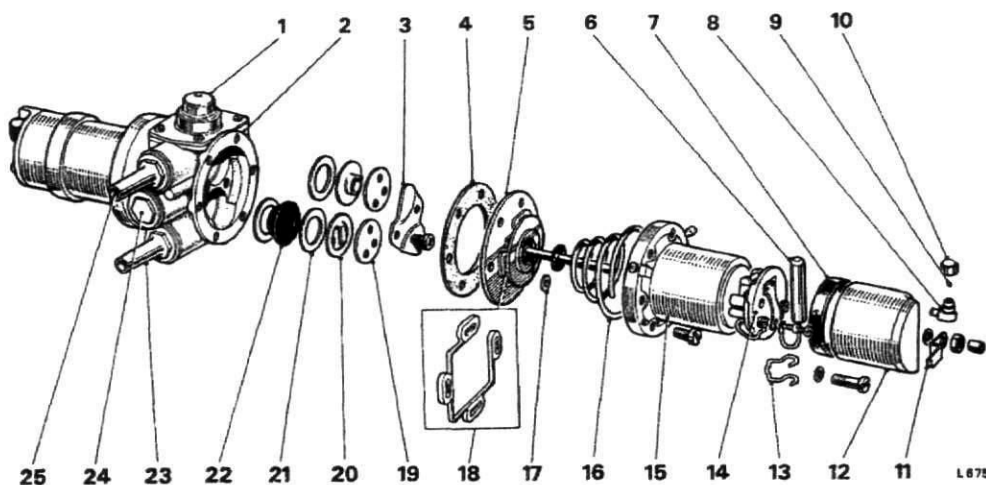

FIG. K7 EXPLODED VIEW OF FUEL PUMPS
Figure K7 from the Silver Shadow workshop manual **4** shows the first significant update of the pump hardware. The magnet, diaphragm, and contact switches stay essentially the same but the flat brass valve discs have been replaced by newer hardware (items 19, 20, 21, 22). The replacement of the eleven brass locating